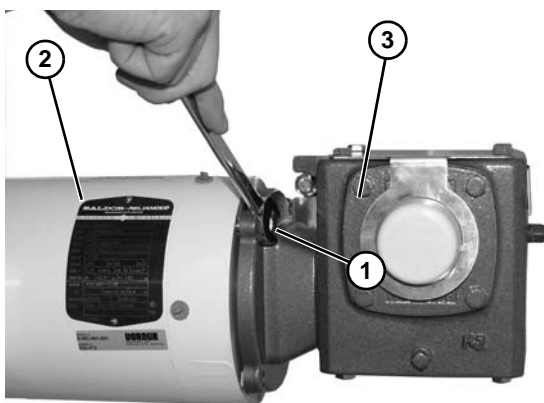

Figure 20
4. Remove four bolts (**Figure 20, item 1**) securing motor (**Figure 20, item 2**) to gear reducer (**Figure 20, item 3**).